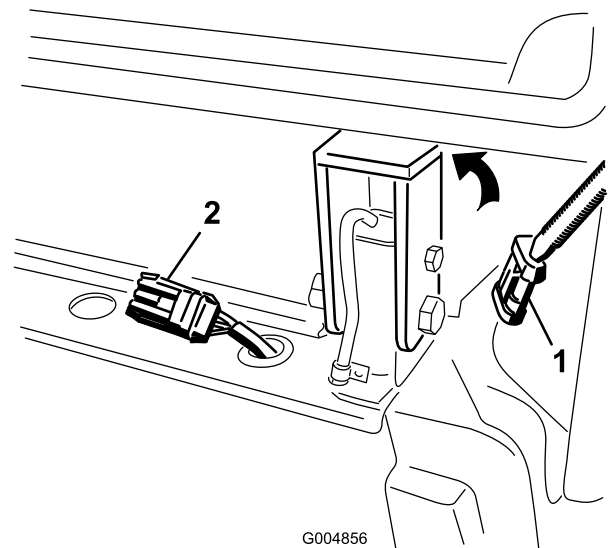

Figure 35
27. Remove the cap and plug the cab wire harness connector into the harness on the rear frame mount (Figure 35).